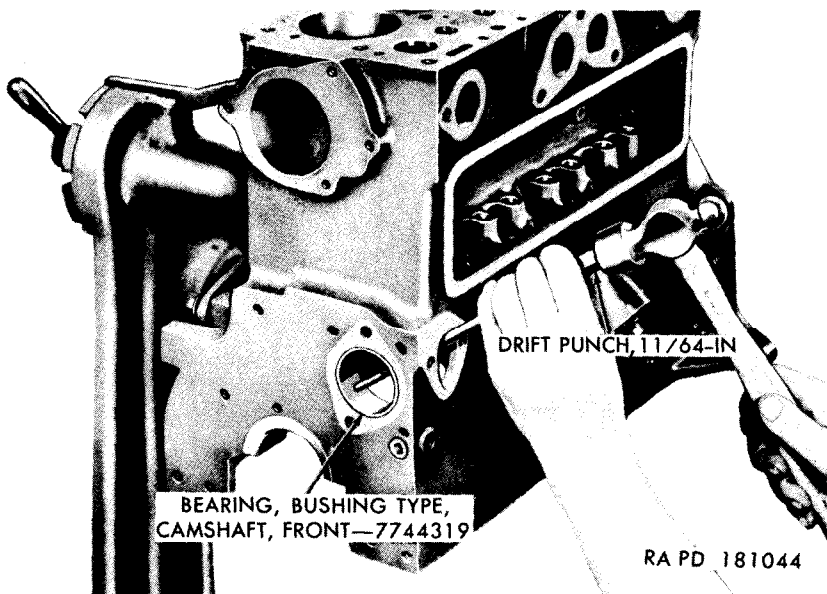

Figure 33. Staking camshaft front bearing.
e. Stake the bearing in place using an $\frac{1}{64}$ -inch drift punch inserted into the fuel pump opening in the side of the block and centered in the oil hole in the front camshaft bushing type bearing (fig. 33). Drive against the punch to cause the bearing metal to be driven into the oil hole in the cylinder block. Make sure the oil hole is open and clear after performing this operation. It is not necessary to line bore the bearing after installation.